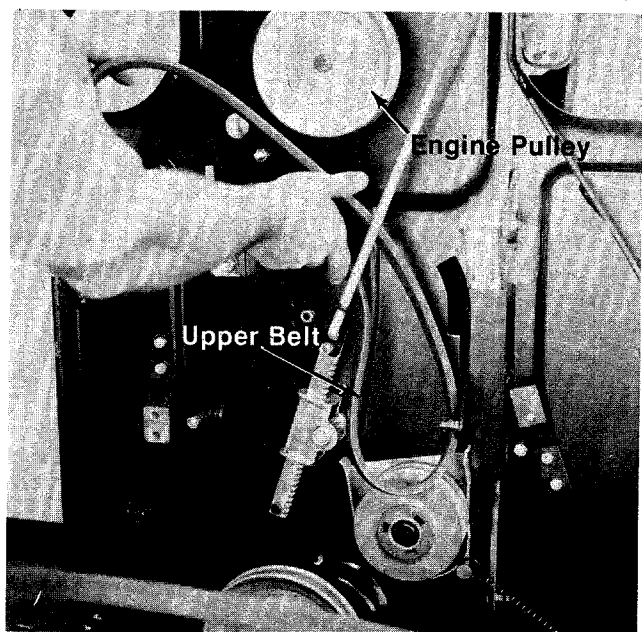

FIGURE 40.
12. Unhook the upper belt from the engine pulley and remove. See figure 40.